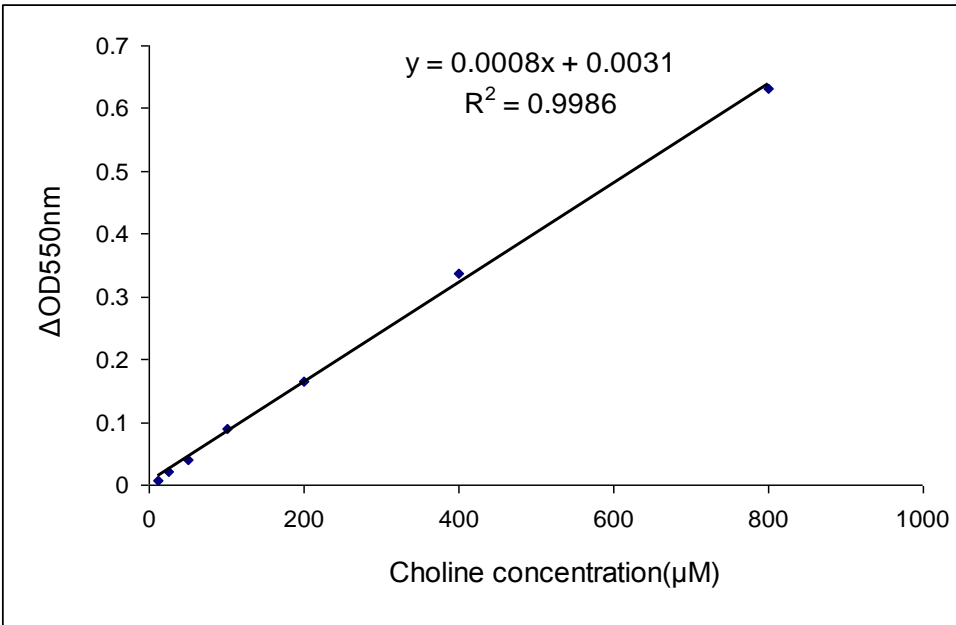

Figure 1. A typical choline standard curve measured by ScienCell™ Phospholipase D Assay kit.
2. Based on the calibrated ΔOD_{550nm} of the choline standard, make a standard curve by plotting ΔOD_{550nm} as a function of choline concentration (See Figure 1 for a typical standard curve). Determine the slope and R^2 value of the trend line.